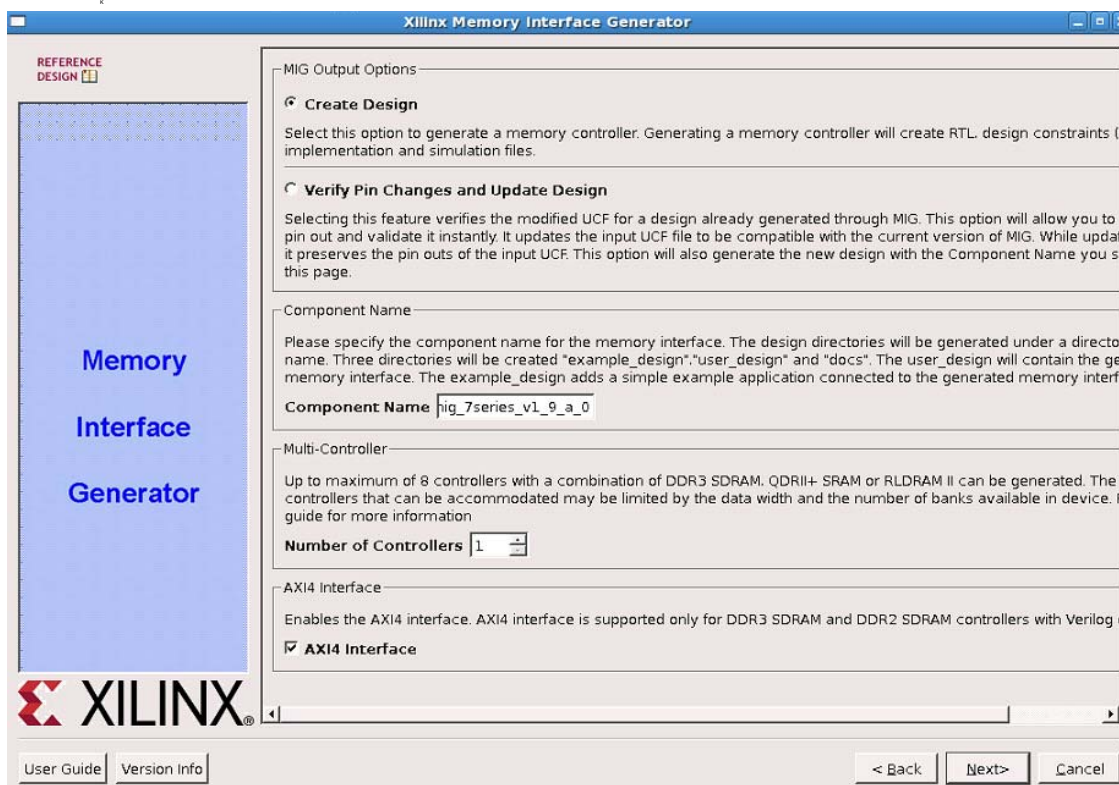

Figure 26: MIG Output Options
5. Choose **Create Design**, and click **Next** (Figure 26).